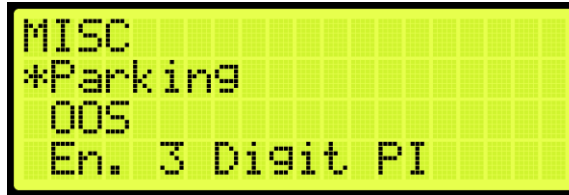

Figure 440: MISCELLANEOUS Menu – Parking
2. From the MISCELLANEOUS menu, scroll and select Parking (See Figure 440).